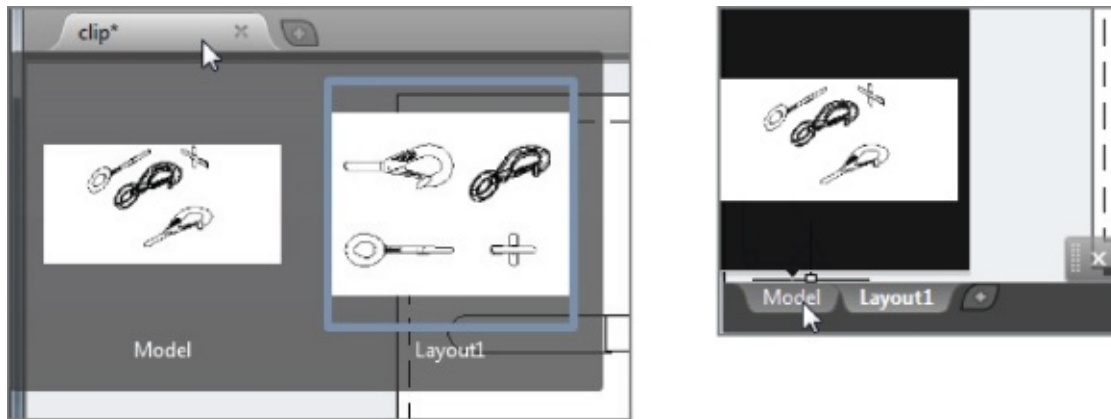
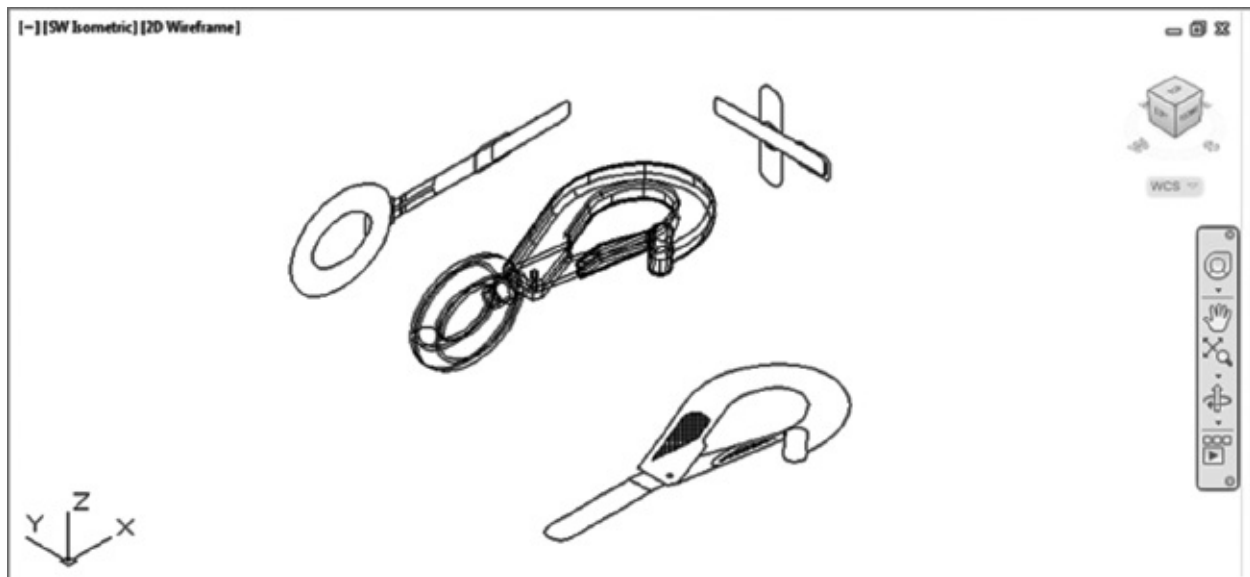

FIGURE 1.16 Hover over the Drawing tab, and click the Model Space image (left) or click the Model tab in the lower-left corner of the drawing area (right).
FIGURE 1.17 3D model with 2D representations of the model
1. Hover over the Clip tab at the top left of the drawing area (see the left panel in Figure 1.16). You'll see two preview icons showing the Model Space on the left and the layout on the right. If you hover over the Model Space image, the drawing area will temporarily change to show you the full view of the Model Space.
2. Click the image on the left showing the Model Space (see Figure 1.16).
Your view changes to show the full 3D model with the 2D representations of the model (see Figure 1.17). You can also click the Model tab below the drawing area (see the right panel in Figure 1.16) to accomplish the same change from the layout to Model Space.